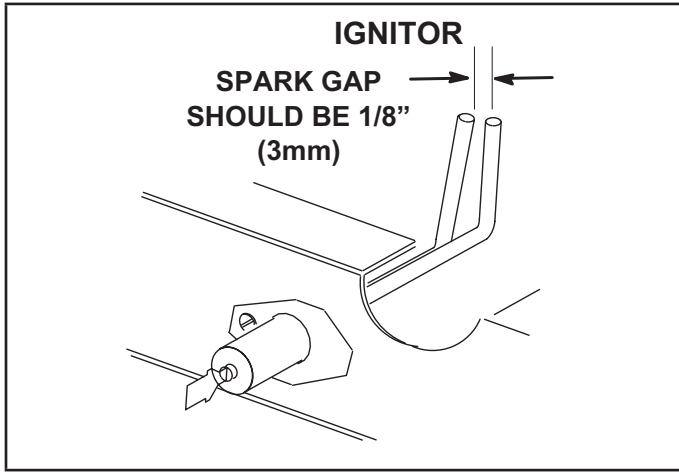

FIGURE 33
- 4 - Locate the ignitor under the left burners. Check ignitor spark gap with appropriately sized twist drills or feeler gauges. See FIGURE 33 and TABLE 19..